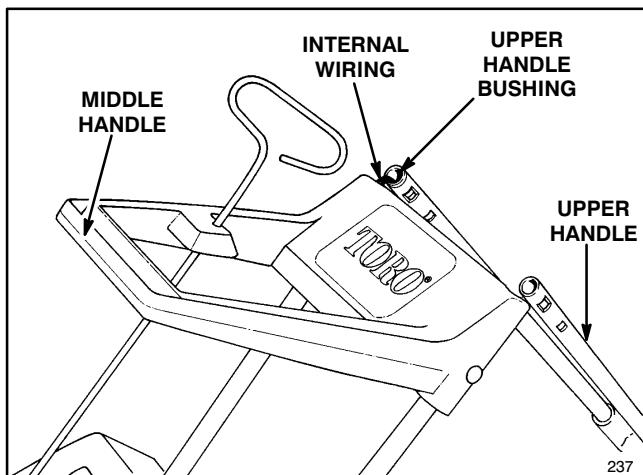

Figure 1
- Thoroughly inspect the open internal wiring before assembling snowblower (Fig. 1).
- Stand snowblower upright and position upper handle in inverted position to prepare for handle assembly (Fig. 1). Inspect the open internal wiring for damage.
Note: Do not remove bushing from upper handle tube (Fig. 1).